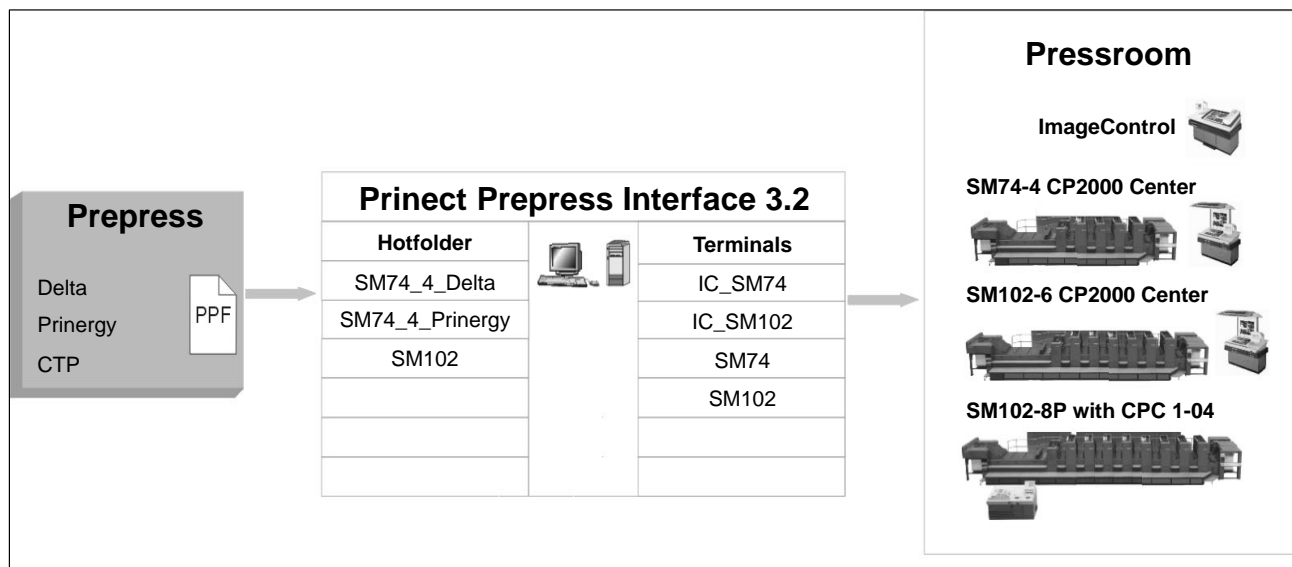

Fig. 8 Example of a "Prepress - Prinect Prepress Interface - Printshop" workflow
As already mentioned, input and output parameters must be defined when creating a new process. The definition of some of these parameters depends on your individual workflow (Fig. 8).
- Take a look at your printshop and make a note of the components (printing press, finishing) for which you would like to set up a terminal interface. In the example shown in Fig. 8 these are ImageControl, SM 74-4 and SM 102-6 (each with a CP2000 Center) and an SM 102-8P mit CPC 1-04.